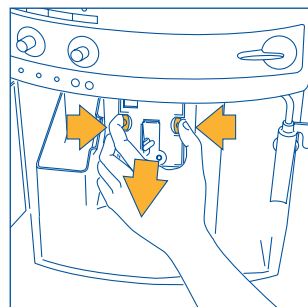

Fig.29
- press the two red release buttons on the infuser sideways and towards the centre (Fig. 29) and pull it out;